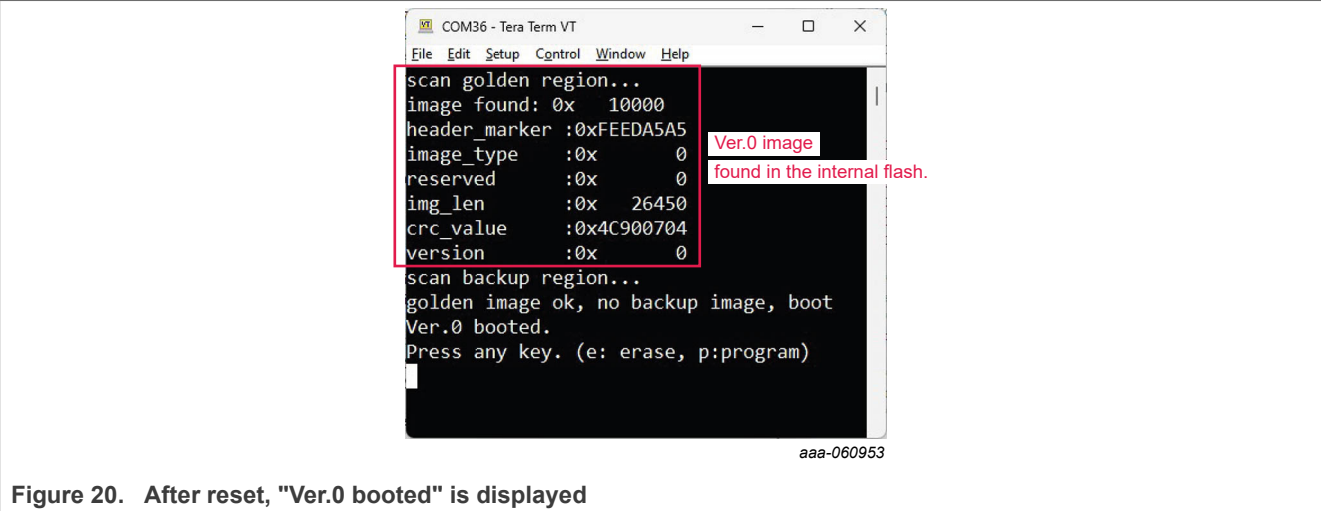

Figure 20. After reset, "Ver.0 booted" is displayed
- b. After reset, "Ver.0 booted" is displayed in the console as shown in Figure 20.